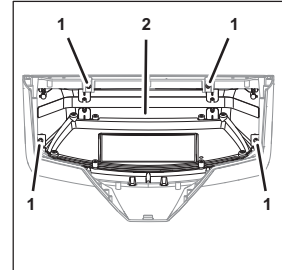

Fig. 38
10. Remove the fastening bolts (Fig. 38/1) from the taxi cab hood (Fig. 38/2).
21. Attach the taxi cab hood (Fig. 38/2) using the fastening bolts (Fig. 38/1).